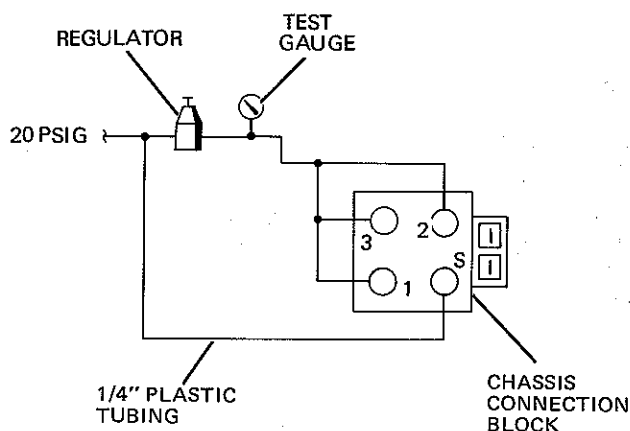

FIGURE 9 Calibration Test Hook-Up Method 2
2. Connect 1/4" O.D. plastic tubing to the connection block barbs as shown in Figure 9.